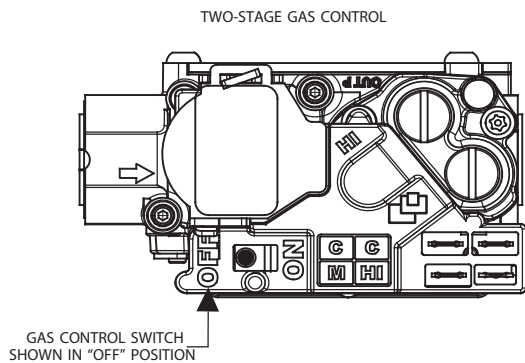

**Fig. 10 - Remove Main Furnace Door (Upflow Configuration)**
4. Remove the main furnace door. See Fig. 10.
5. Turn the control switch on the gas control to the OFF position and wait five minutes. See Fig. 10. Then smell for gas, including near the floor. If you smell gas, **STOP!** Follow “B” on furnace label. If you don’t smell gas, go to next step.
4. Remove main furnace door. See Fig. 10.